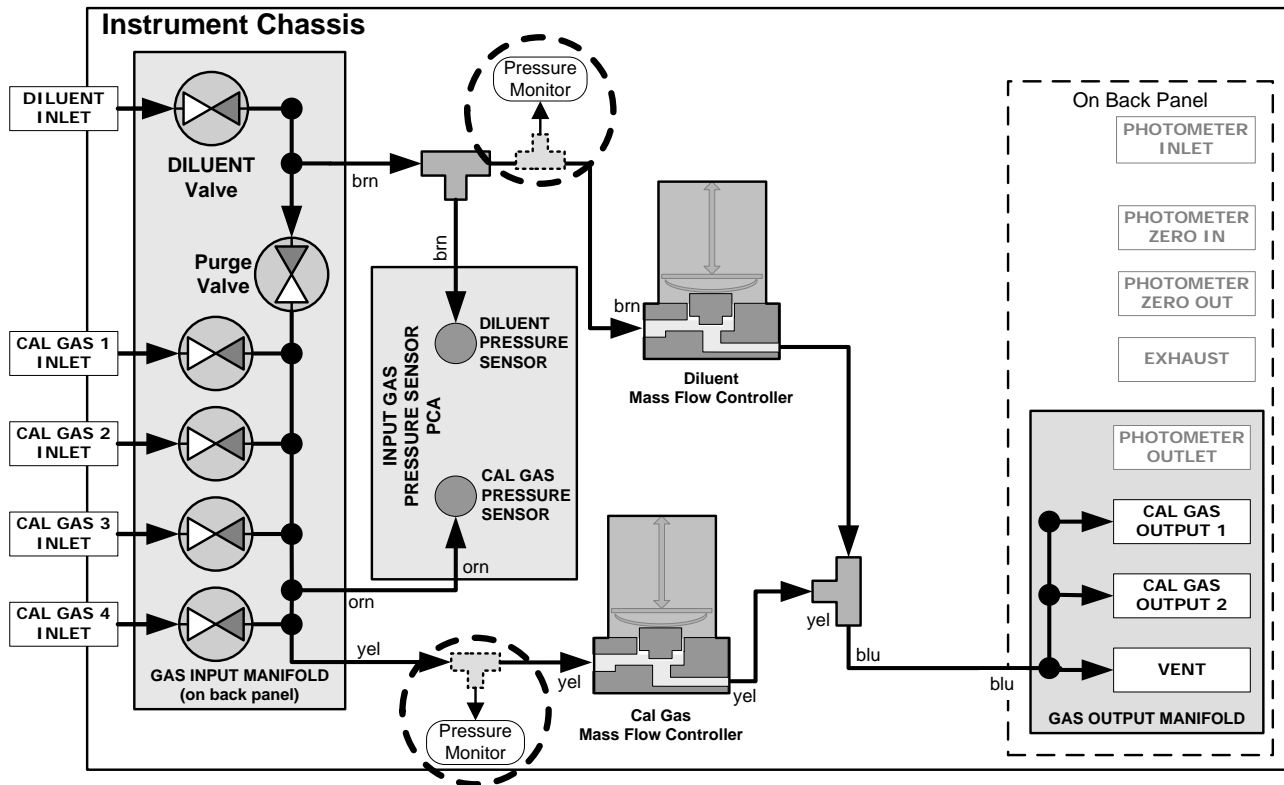

Figure 7-6: Pressure Monitor Points – T700 – Basic Unit
2. For the sensor being calibrated, insert a “T” pneumatic connector at the location described in Table 7-2 and shown in Figure 7-6 and Figure 7-7.